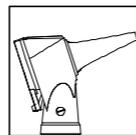

fig.3
3. Put the otoscope with a tip into the ear canal of patient (**fig.3**), and examine through the viewing window which is with 3X magnification;